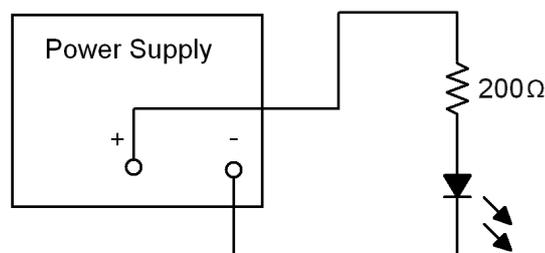

Fig. 1. LED circuit for power supply.
1. **Connect the circuit of Fig. 1. Make sure you understand how to use the breadboard correctly. You can find additional information on the appendix of this manual or over the Internet.**
4. Use the circuit shown in Fig. 1 to check whether DC voltage actually appears at the two output terminals of the power supply.